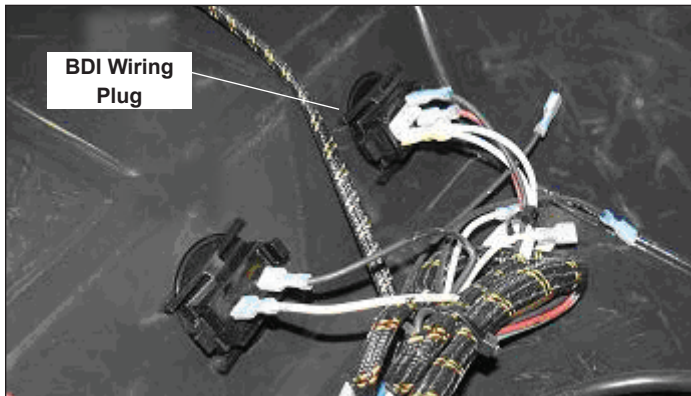

Figure 8-8. BDI Wiring
2. Remove wires from back of BDI. Figure 8-8. Remove retainer from back side of console and remove BDI.